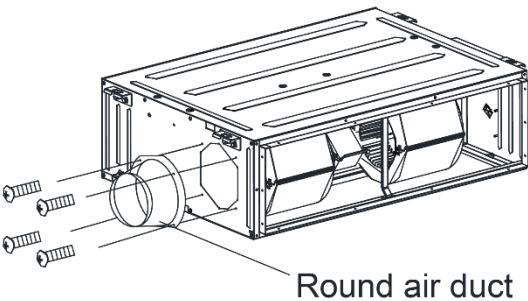

Fig 9.4.9
- (2)Install the round flange so that the fresh air duct can be connected as Fig 9.4.9
- (3)Sealing and heat preservation should be done for both the air pipe and round flange pipe.
- (4)Fresh air should be treated via the air filter.